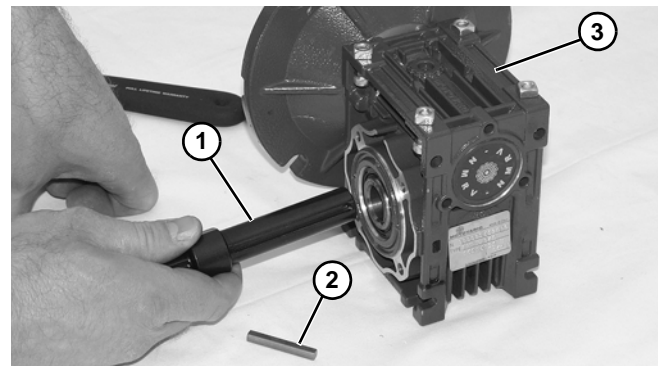

Figure 23
9. Remove driveshaft (**Figure 23, item 1**) and key (**Figure 23, item 2**).
10. Replace gear reducer (**Figure 23, item 3**).
12. Replace the original shaft components into new gear reducer (Figure 23).